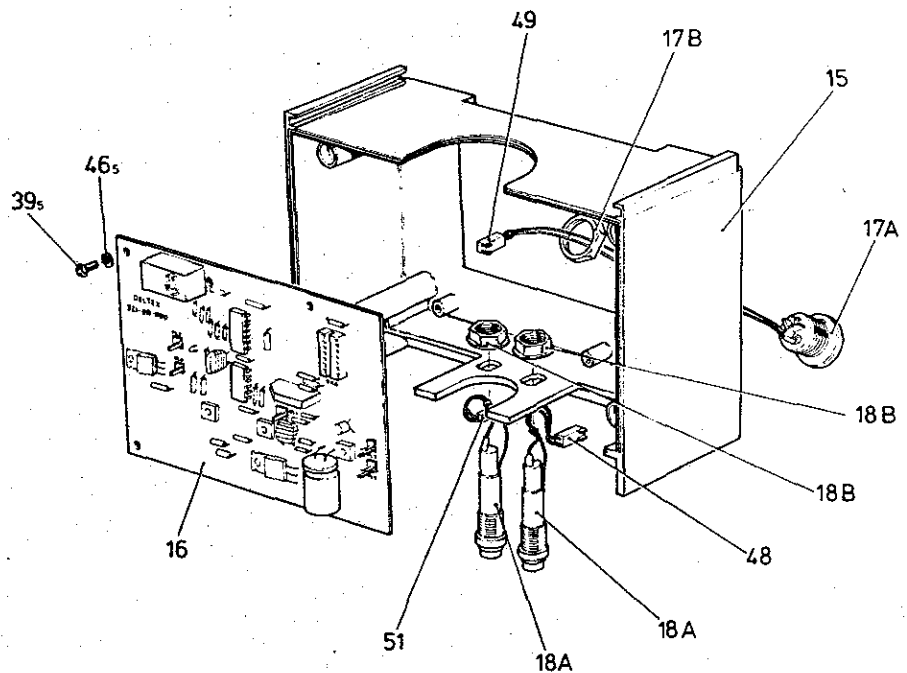

Fig. 6
Refer to Figure 6. Disconnect the cable harnesses 1, 2, and 4 (items 48, 49, 51) from plugs PL1, PL2, and PL4 on the printed circuit board (item 16). NOTE: Plug numbers are marked directly on the printed circuit board.
Refer to Figure 6. Replace the 12V AC input receptacle (item 17A) by feeding cable harness 2 (item 49) through the hole in the rear housing. Secure the receptacle with the large nut (item 17B) on the inside of the case.